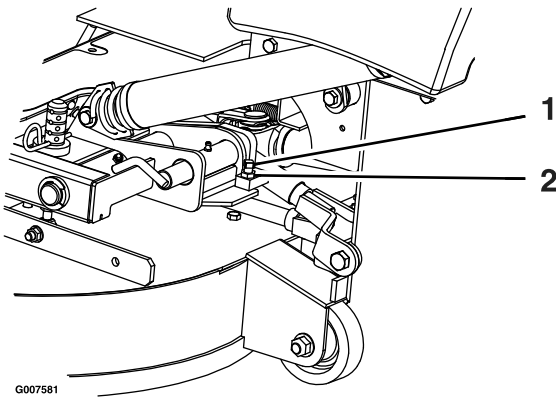

**Figure 60**
3. Loosen the six door hinge nuts (Figure 60).
4. Open the door and place a 3/8 inch rubber strip or 3/8 inch diameter hose between the hopper and the hopper door (Figure 60).